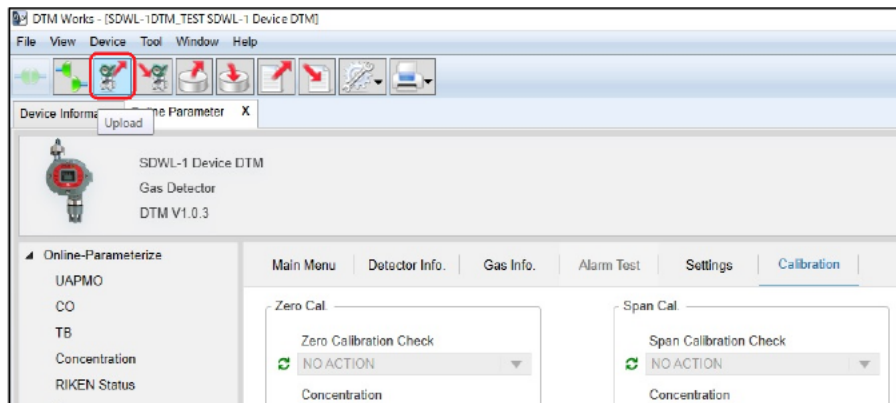
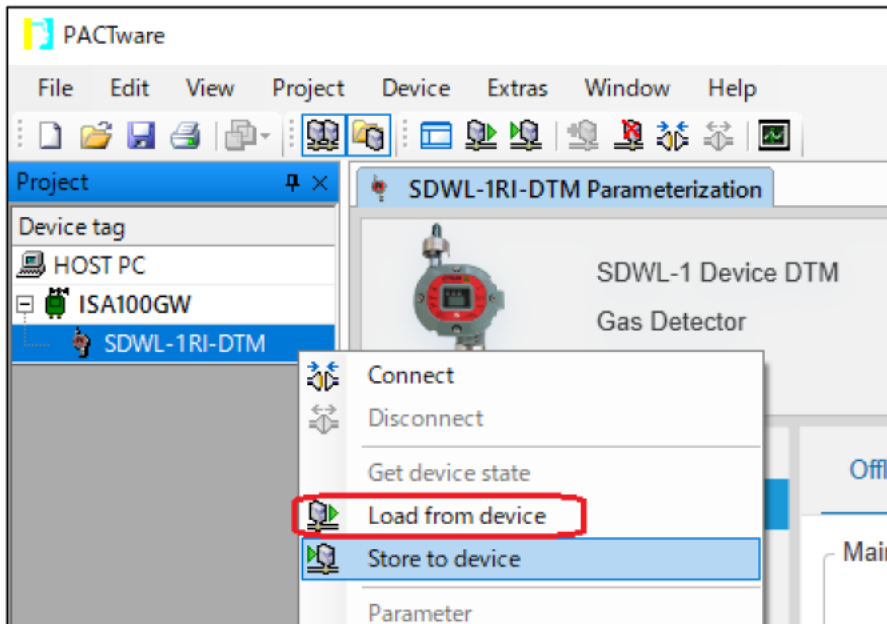
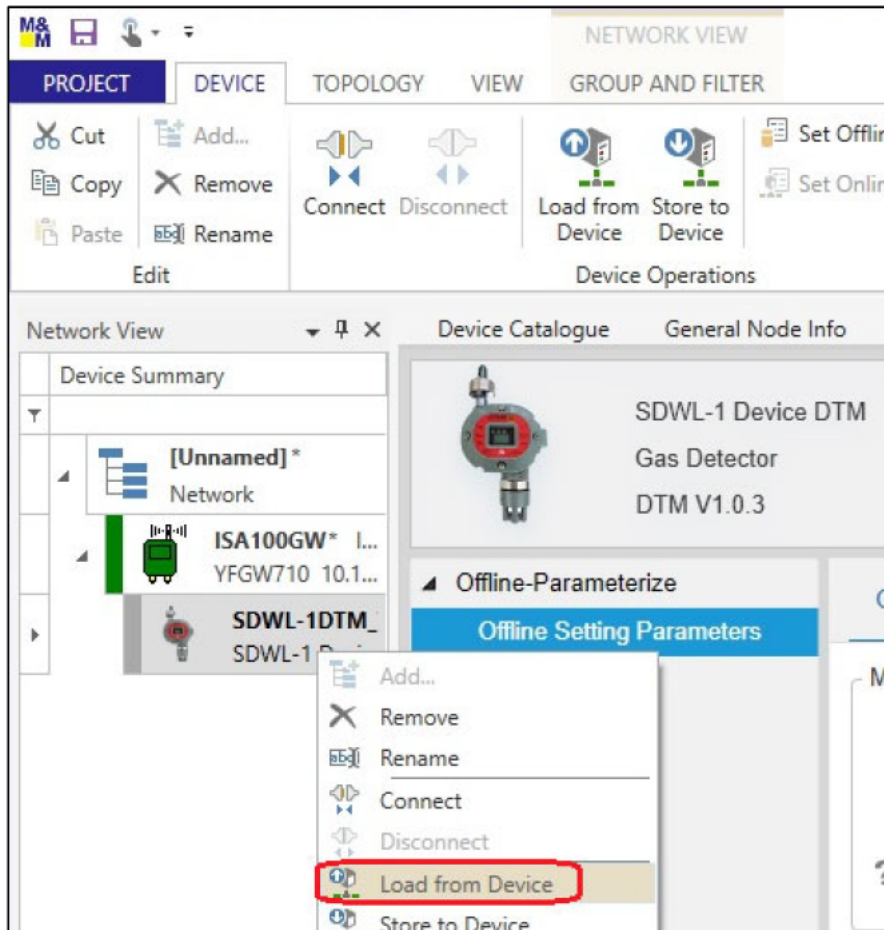

Figure 7-20 Upload procedure (for FieldMate)
Figure 7-21 Upload procedure (for PACTware)
Figure 7-22 Upload procedure (for fdtCONTAINER)
- ① Change “Zero Calibration” to “ON”, then click “Apply”.
- ② Repeatedly press the upload buttons in the following figures (Figure 7-20, Figure 7-21, and Figure 7-22).
- ① Enter the span adjustment concentration (value with decimal point omitted) in "Span Concentration".
- ② Change "Span Calibration" to "ON", then click "Apply".
- ③ Repeatedly press the upload buttons in the previous figures (Figure 7-20, Figure 7-21, and Figure 7-22).